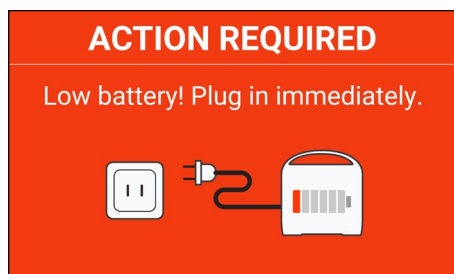
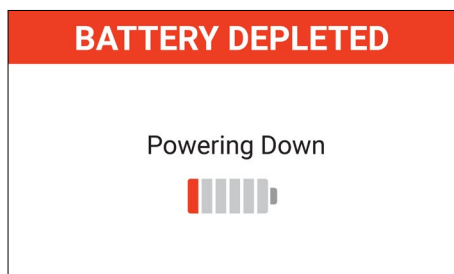

Figure 22. Low battery alert
Figure 23. Terminal battery shutdown alert
When the battery reaches approximately 2 hours of remaining run time, an alert will notify the user to plug in to AC power to avoid interruption in therapy. (Fig. 22) If being used on a bed or seat, an auditory alert will sound for three (3) minutes every hour while the alert is active. If being used on the procedure table, an auditory alert will sound for five (5) seconds every hour while the alert is active. The low battery alert screen will be dismissed by either plugging the controller into AC power or by pressing discharge on the screen. If a terminal shutdown occurs (Fig. 23) the patient's information will be cleared from the system.